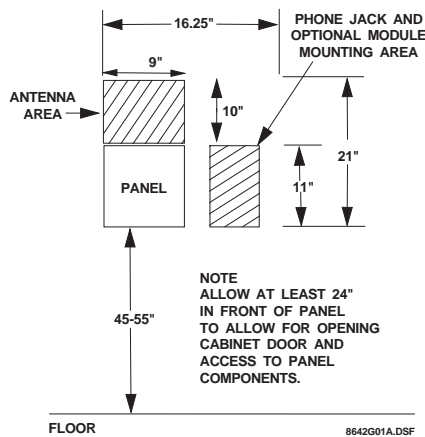

Figure 1. Determining Panel Location
- ☐ Mount the panel at a comfortable working height (about 45 to 55 inches from the floor to the bottom of the panel, as shown in Figure 1).